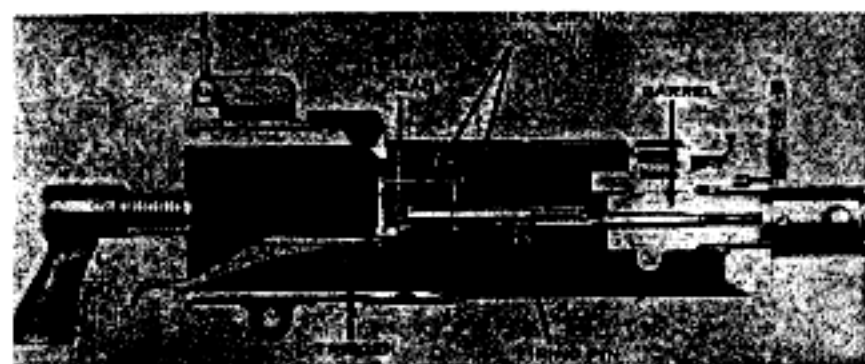

Figure 65. Firing pin released.
- (2) Since the trigger is pivoted, when the rear end is raised, the front end is lowered. The sear is forced down by the trigger cams through their engagement with the sear cams. The shoulder of the firing pin is released from the sear notch. The firing pin goes forward under the force of the expanding firing pin spring and strikes the primer of the cartridge (fig. 65).